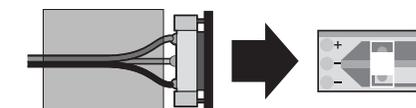

Figure 5
1. Insert supply connector into the silicon cap (Fig. 5).
2. Open the fastener of the feeder connector (Fig. 5).
5. Push silicon cap over the connection position (Fig. 5)